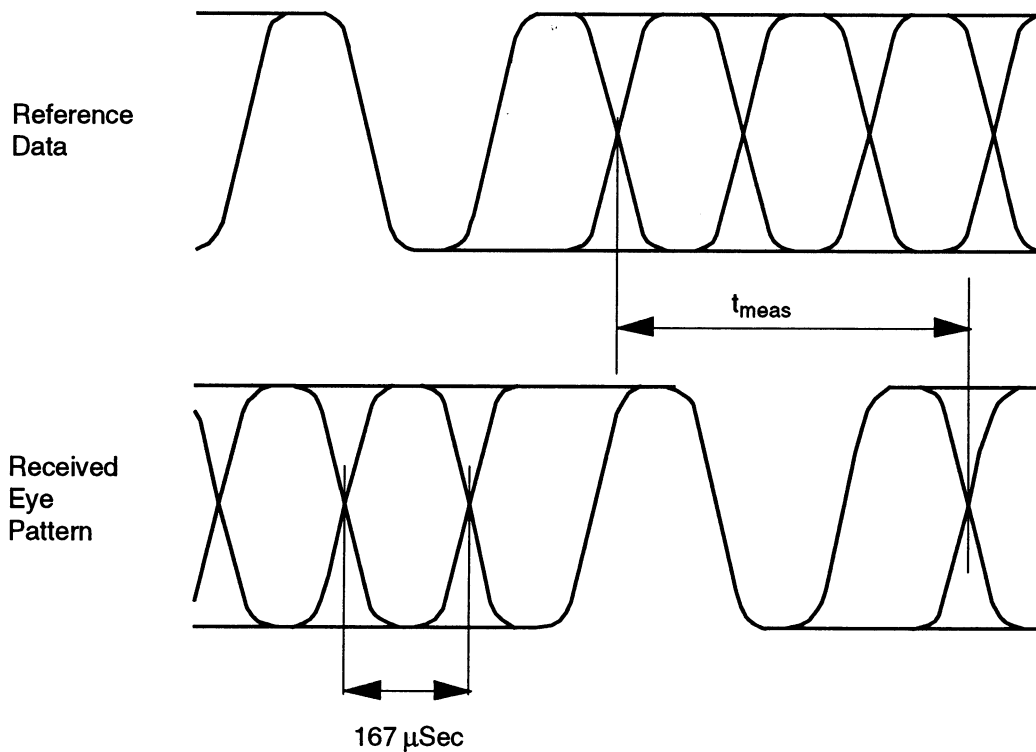

Figure 41. Four-Level Time Delay Measurement #1
Step 23. Set the scope to trigger on the negative edge of channel 1 (use Normal Trigger, Chop Mode) to display a 6 ksymbols/sec filtered random data, or eye, pattern (Figure 41).
Step 26. Select the scope timebase so the trigger of the reference data and the delayed trigger in the received eye pattern may be observed on the scope simultaneously. This will be approximately 200 $\mu\text{s}/\text{div}$ (see Figure 41).
Step 27. Measure (approximately) the time delay between the two eye patterns (see Figure 41).
Step 36. Set the scope to trigger on the negative edge of channel 1 to display a 6 ksymbols/sec filtered random data, or eye, pattern (Figure 41) as follows:
- To display the pattern as shown in Figure 41, adjust the vertical and horizontal SCALE knobs.
Step 38. Connect the discriminator output from the consolette to channel 2 of the scope. The optimization consolette should be receiving a two-level 6 ksymbols/sec eye pattern. See Figure 41.
- Select the scope timebase so the trigger of the reference data and the delayed trigger in the received eye pattern may be observed on the scope simultaneously. This will be approximately 200 $\mu\text{s}/\text{div}$ (see Figure 41).
Step 46. For each site, use the following formula to compute the propagation time for the signal as it passes from the prime site, through site n , and to the desired equal phasing area. Refer to Figure 41 for an example phasing area.